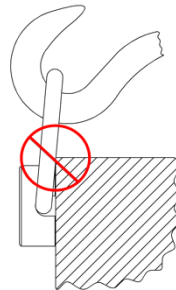

Fig 2
- Make sure the lifting ring bail/ring or hardware attached to it does not come in contact with the workpiece or any obstacles during the lift. The bail/ring must not bind on the edge of the workpiece. Use spreader beam to avoid binding (Fig.2).
Acceptable pulling area, restrictions apply (see Fig. 2 and Safety Information above)